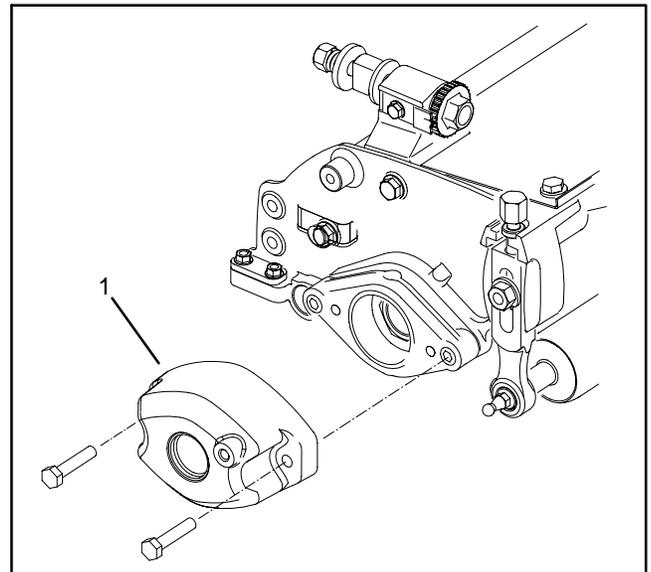

Figure 19
2. Remove the 2 capscrews securing the counter weight to the side plate (Fig. 19). Remove the counter weight.